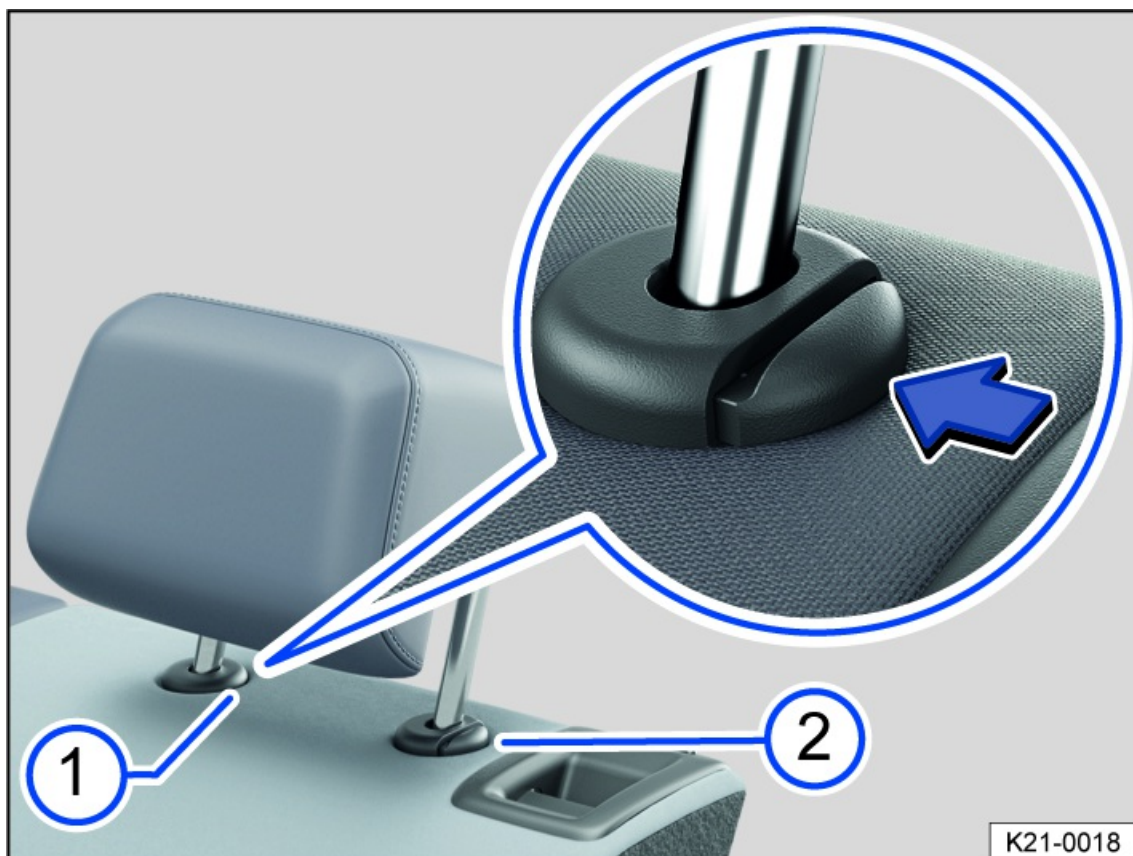

Fig. 64 Removing the rear head restraint (general example).
3. Press the button *fig. 64* on the head restraint guide.
4. At the same time, press button *fig. 64* while a second person pulls the head restraint all the way out.
3. Push the head restraint downward while pressing the *fig. 64* button.